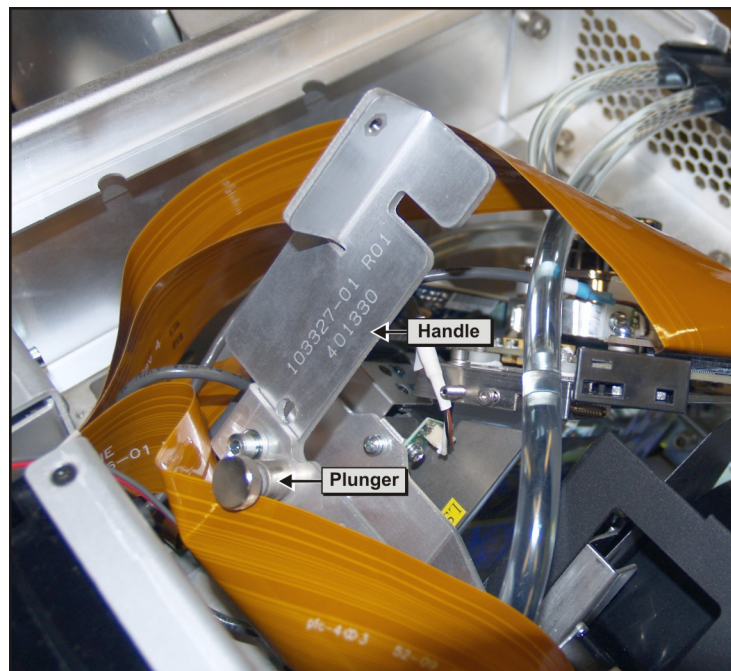

Figure 5-45 Light Engine Handle
8. Pull up on the plunger to release the light engine handle and move it up to its final position. (**Figure 5-45**)